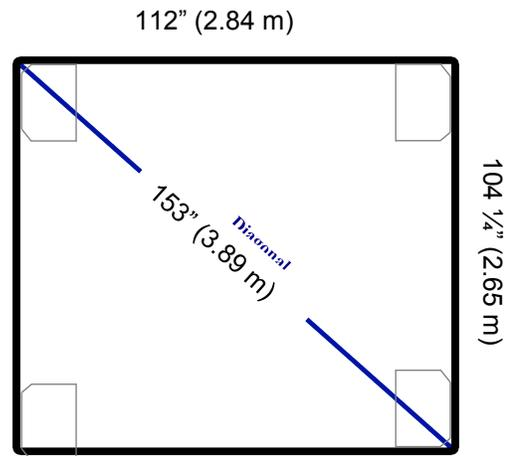

Figure 33
- ♦ The foundation must be levelled with a maximum tolerance of 1" (2.5 cm) over a 153" (3.89 m) diagonal section and 112" (2.84 m) by 104 1/4" (2.65 m) rectangle (Figure 33). The annual variation in levelness for the same diagonal section cannot exceed 1/4" (6 mm).